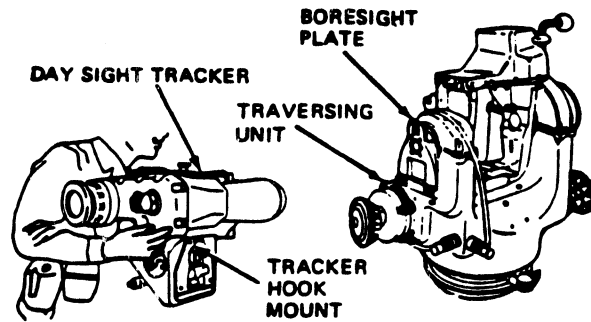

Fig 2-11. Installing the day sight tracker--continued.
Step 3. Tilt the top of the day sight tracker slightly toward the traversing unit, and place the tracker hook mount over the top of the boresight plate (fig 2-11).